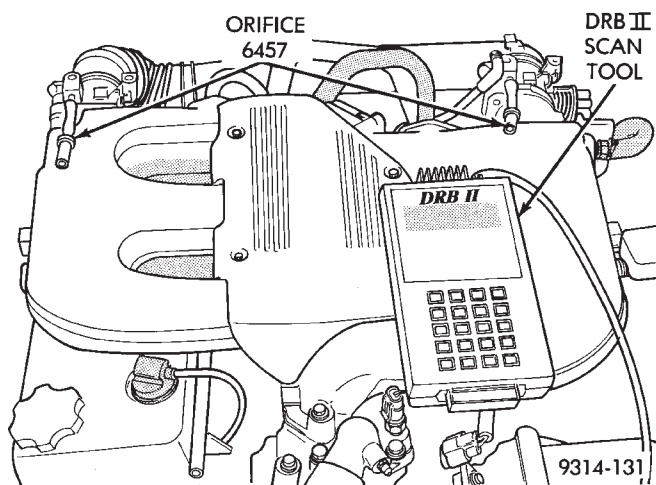

Fig. 28 Orifice 6457 Attached to Purge Nipples—
- (6) Use a piece of hose to attach an Air Metering Orifice 6457 (0.125 in. orifice) to the purge nipple on each throttle body (Fig. 28).